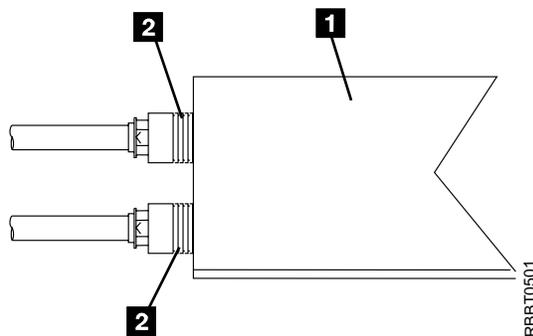

Figure 3. Connecting the SCSI Bus Cable to the 7210 DVD-RAM Drive. The view is from the side.
2. \_\_\_ On the rear of the 7210 DVD-RAM Drive ( **1** in Figure 3), insert the device connector end of the SCSI bus cable into one of the SCSI connectors **2**.